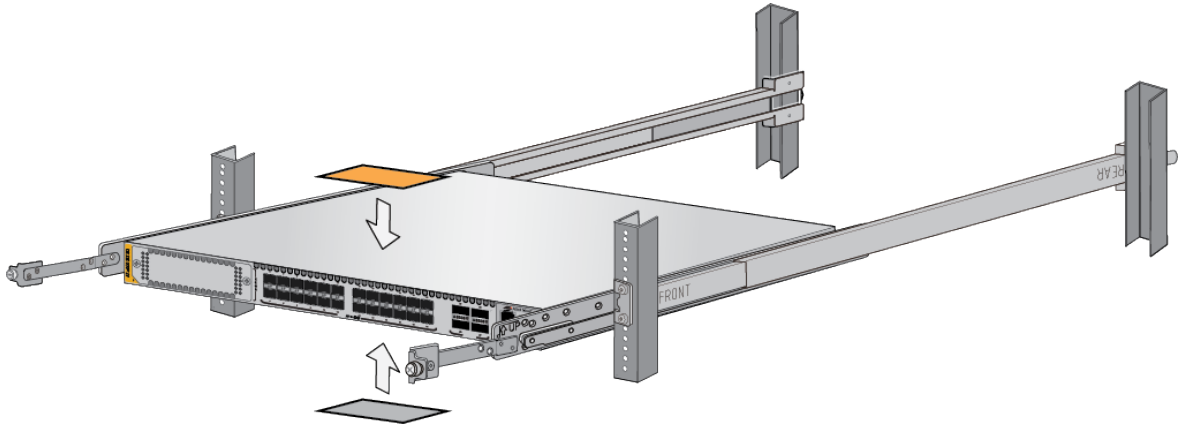

Figure 100. Affixing the Warning Labels
2. Affix the provided warning labels to the top and bottom of the switch, in locations immediately visible when removing the device from the rack. Refer to Figure 100 on page 155.